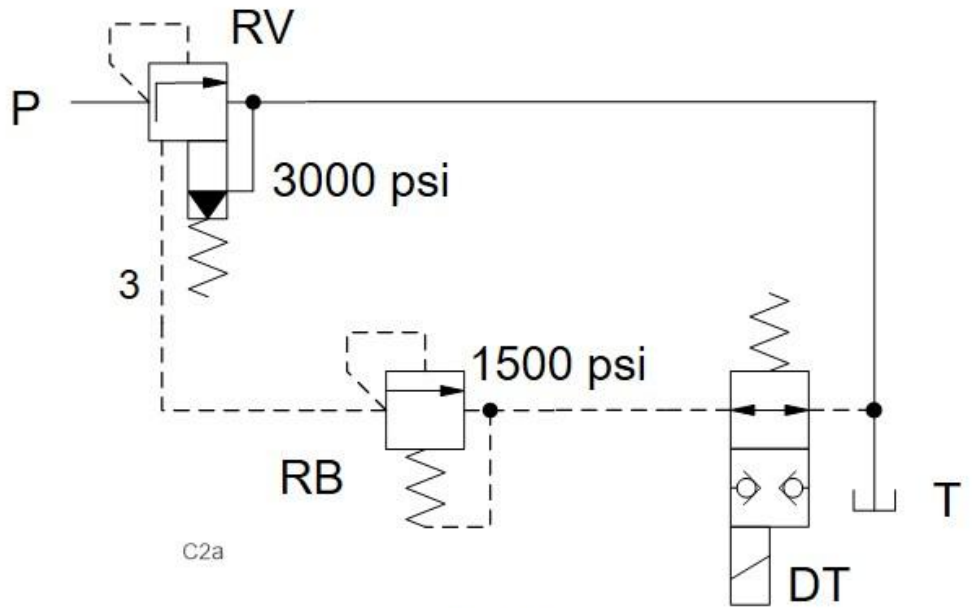

Fig.1
- **Fig.1** shows a ventable pressure relief valve RV*A. Port 3 sees a pilot relief valve RBAE with a setting (1500 psi) below the setting (3000 psi) of the RV*A. The system pressure falls to the RBAE setting when DTDA opens. The spool-type valve RV*A can be replaced with a poppet type RV*S.